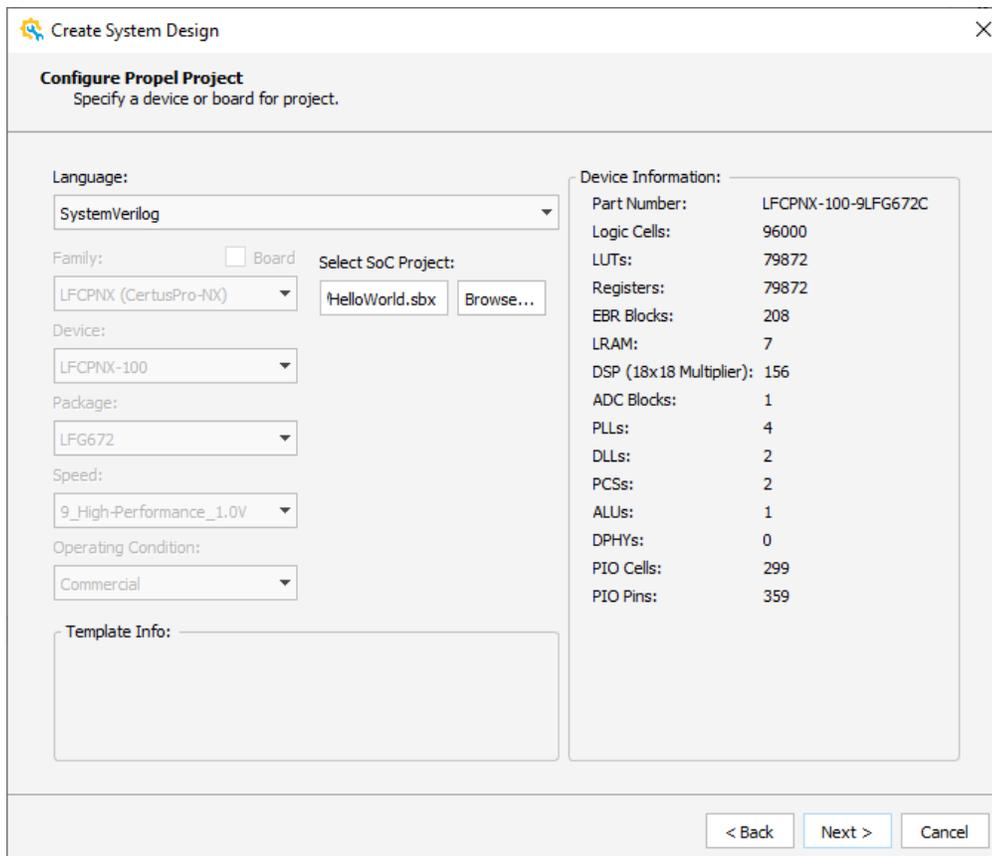

Figure 2.67. Create System Design – Propel Project Configure Wizard
5. Click **Next**. The Propel Project Configure wizard is shown as Figure 2.67.